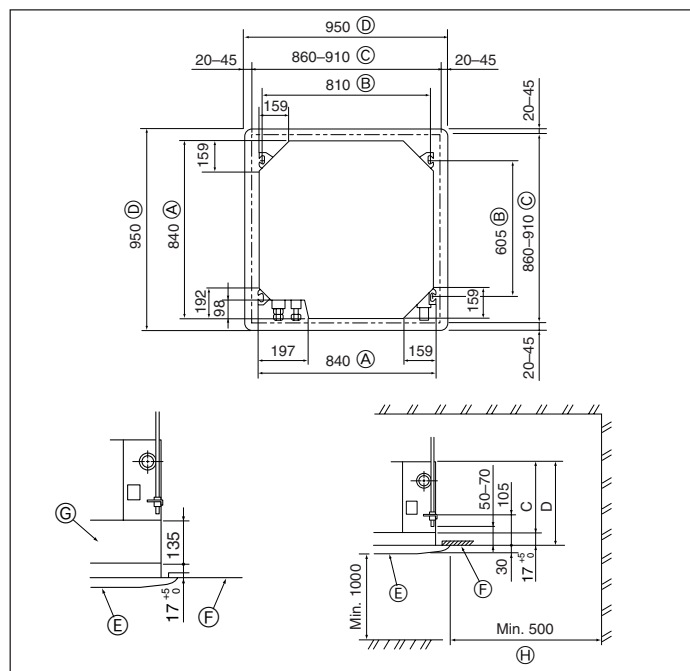

Fig. 2-2
2.2. Ceiling openings and suspension bolt installation locations (Fig. 2-2)